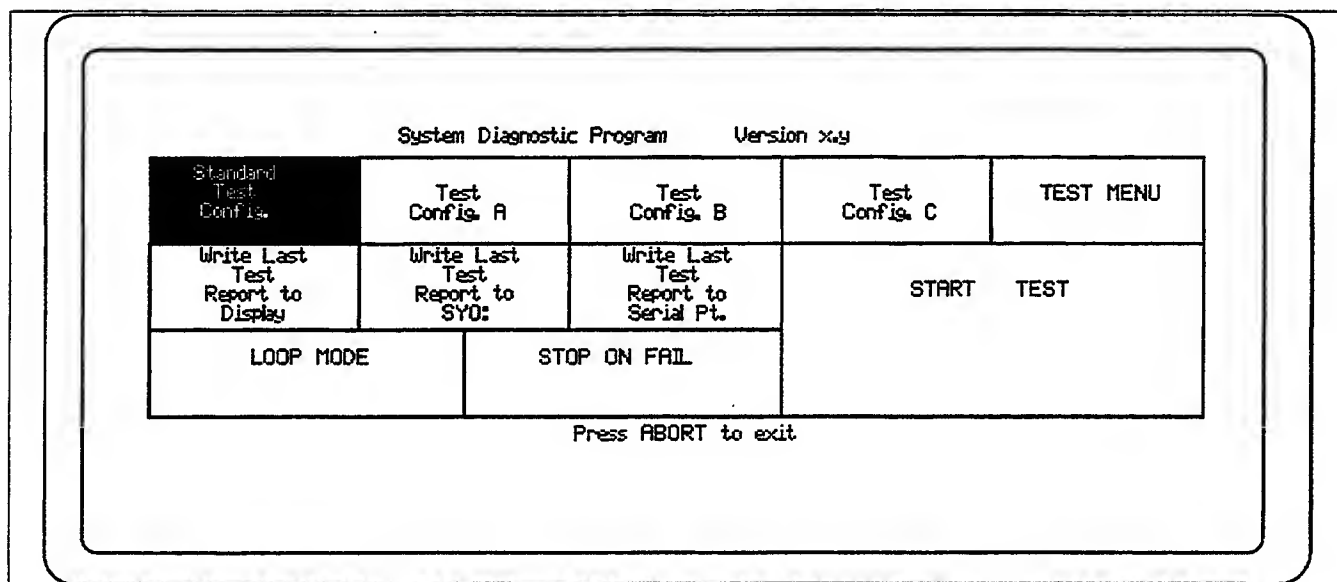

Figure 3-4. Main Menu
2. After the System Diagnostic software is loaded from the floppy disk, the 1722A display reads as shown in Figure 3-4.